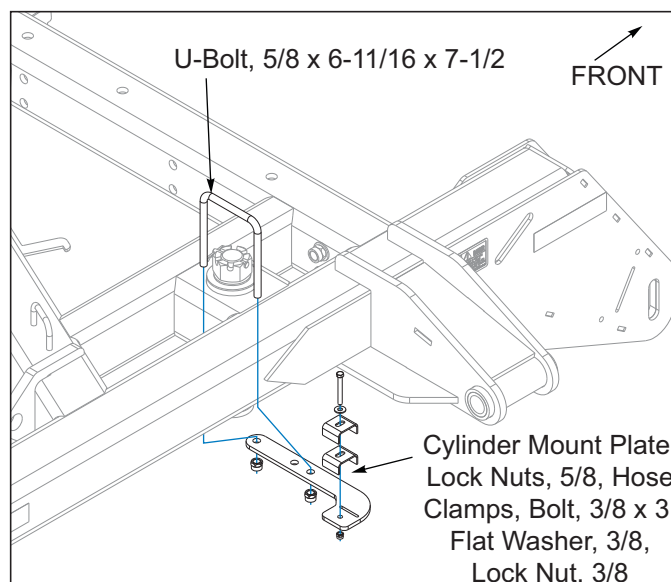

Figure 3-13: Hose Mount Plate 7531-32'-35'
8. Install the hose mount plate to outside tube of center frame, both sides using 5/8 x 6-11/16 x 7-1/2 u-bolts and 5/8 lock nuts **See Figure 3-13**. Attach hose clamps with 3/8 x 3 bolt, 3/8 flat washer and 3/8 lock nut.